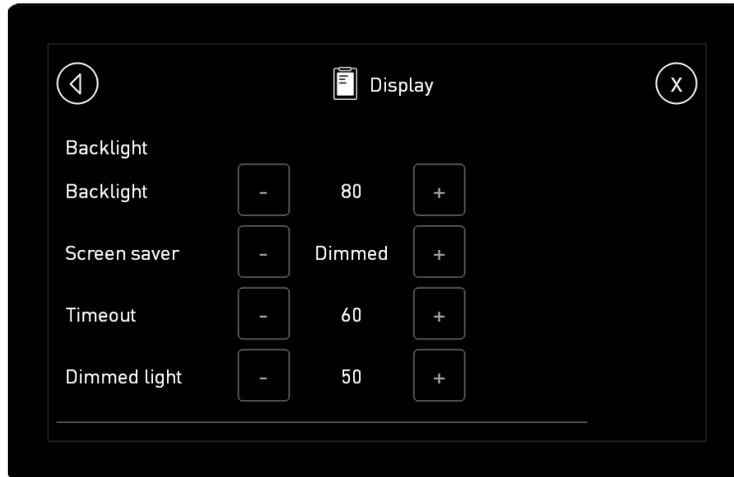

Figure 52. Display configuration page
7. Select “Display” to get to the screensaver settings (Figure 52)